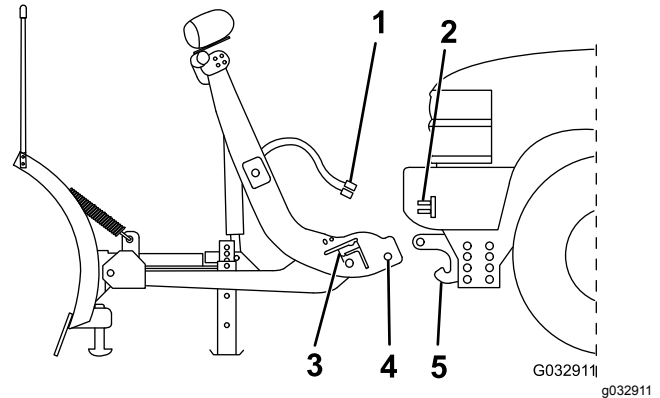

Figure 28
2. Line up the vehicle with the snowplow and slowly drive forward until the lower pin contacts the push-beam pin receiver (Figure 28).
4. Remove the electrical-plug dust-covers and connect the plow wire harness to the vehicle wire harness (Figure 28).